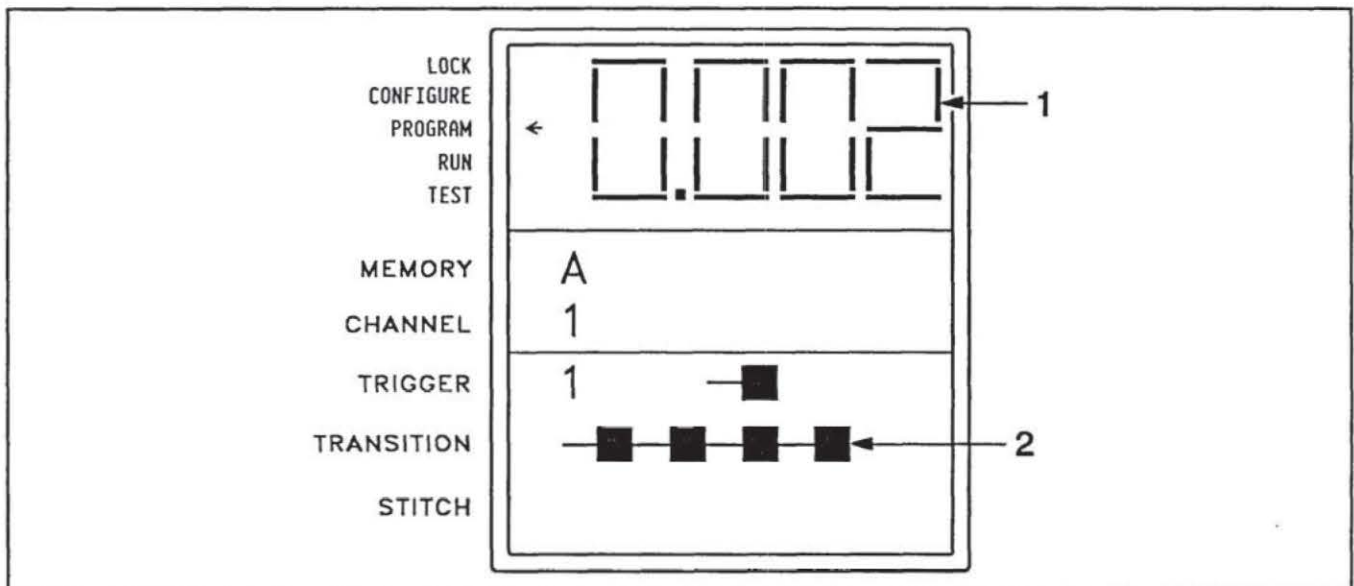

Figure 4.15 - Program mode TRANSITION value display
2. Press SET.	<ul style="list-style-type: none"> <li>The selected symbol is flashing.</li> <li>The right-most digit of the value is flashing (Figure 4.15).</li> </ul>